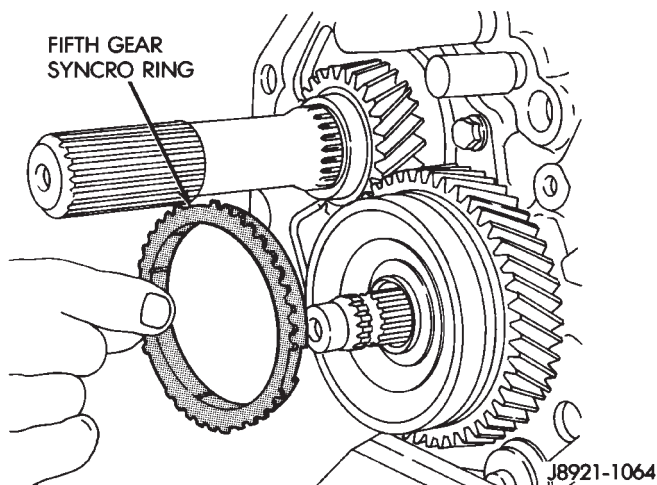

Fig. 53 Remove Fifth Gear Synchro Ring
- (5) Remove fifth gear synchro ring (Fig. 53).